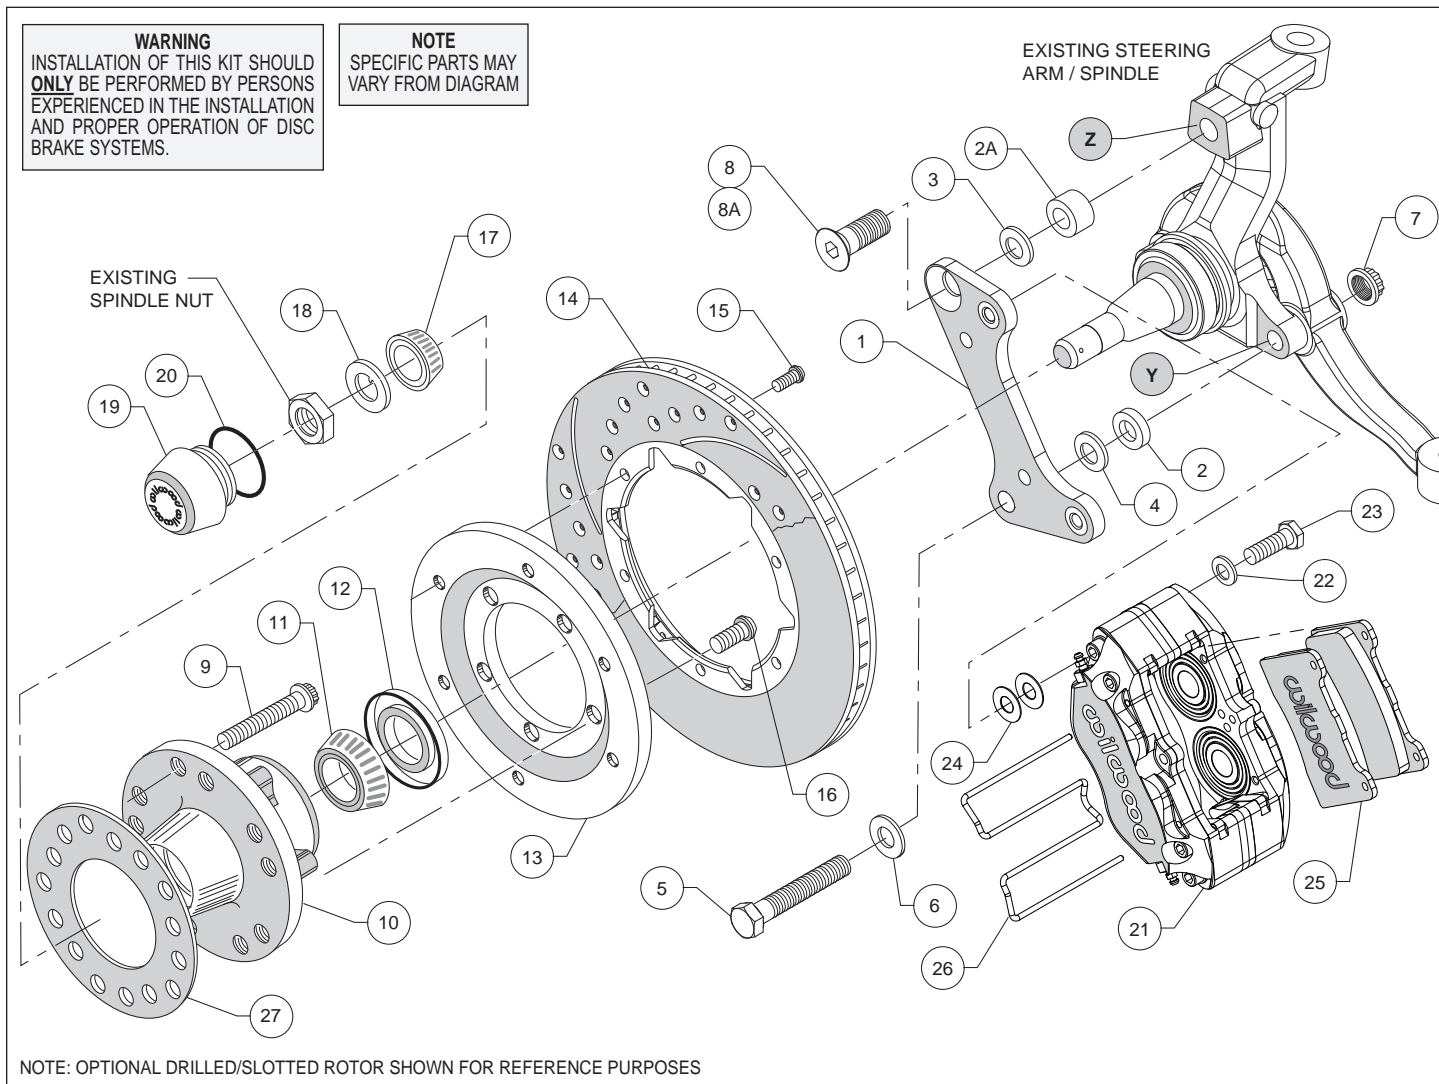
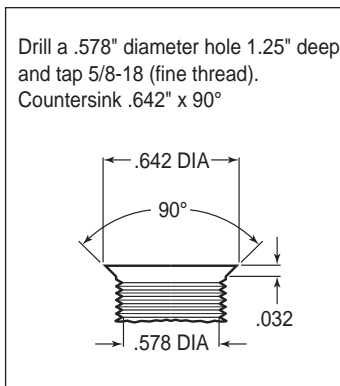

Figure 1. Typical Installation Configuration
Figure 3. Drill and Tap Detail
**Assembly Instructions** (numbers in parenthesis refer to the parts list and Figure 1 on the preceding page): **CAUTION:** All mounting bolts must fully engage clinch nuts. Be sure to check that all bolts are either flush or protruding through flanged side of clinch nut after shimming, Figure 4.
•**NOTE:** 1964-66 spindles may require the following modifications (reference Figure 1 and Figure 3): Top anchor pin hole (Z) must be drilled and tapped to the dimensions as outlined in Figure 3. Bottom rear steering arm bolt hole (Y) in the spindle and steering arm must be enlarged to .50" by drilling.
- Pack the large inner bearing cone (11) with high temperature disc brake bearing grease (available from your local auto parts store) and install into the backside of the hub (10), Photo 2.
- Install the grease seal (12) by pressing into the backside of the hub (10), flush with the end of the hub, Photo 2.
- Orient the rotor (14) and the rotor adapter (13) as shown in Figure 1 and Photo 3. Attach the rotor to the adapter using bolts (15). Using an alternating sequence, apply red *Loctite*® 271 to the threads, and torque to 25 ft-lb.
- Mount the adapter/rotor assembly (13/14) to the hub (10) using bolts (16), as shown in Figure 1 and Photo 4. Using an alternating sequence, apply red *Loctite*® 271 to the threads, and torque to 45 ft-lb.
- Attach caliper mounting bracket (1) to spindle face using lower bolt (5), washer (6), and a .090" thick spacer (2) positioned between the bracket and the spindle face, as shown in Figure 1 and Photo 5. Secure bolt on the backside of the steering arm with lock nut (7). Finger tighten. Install upper bolt (8) (for drum spindle) or bolt (8A) with spacer (2A) between bracket and spindle (for disc brake spindle), Photo 6. Ensure that the flanged heads of the clinch nuts in the bracket are facing outboard, Photo 6. Temporarily tighten the mounting bolts and install the new hub/rotor assembly (10/14). Check that the bracket is aligned parallel to the rotor, Photo 7. If not, adjust by adding shim washers (3 and/or 4) between spacers (2 and/or 2A) and the bracket, Figure 1. Once the bracket alignment is correct, remove the upper bolt (8 or 8A), apply red *Loctite*® 271 to bolt threads, and torque to 120 ft-lb. Torque lock nut (7) to 65 ft-lb.
- Pack the small outer bearing cone (17) with high temperature disc brake bearing grease and install into hub (10). Slide the hub/rotor assembly onto the spindle. Secure using spindle washer (18) and OEM spindle nut, Photo 8. Adjust bearings per OEM specifications. Install saved OEM nut lock (if any) and a new cotter pin (not included).
- Screw dust cap (19) into hub (10). Friction created by the o-ring on the dust cap keeps it from unscrewing. **NOTE:** The O.D. of the existing OEM spindle washer may be larger than the I.D. of the dust cap not allowing it to seat against the hub face. Therefore, use the spindle washer (18) supplied with the kit instead of the OEM washer.
- NOTE:** Please reference the caution statement at the beginning of the assembly instructions. Mount the caliper (21) onto the caliper mounting bracket (1) using bolts (23) and washers (22), as shown in Figure 1. Initially place two .032" thick shims (24) on each bolt between the caliper and the bracket, Photo 9. Temporarily tighten the mounting bolts and view the rotor (14) through the top opening of the caliper. The rotor should be centered in the caliper, Photo 10. If not, adjust by adding or subtracting shims between the bracket and the caliper. Always use the same amount of shims